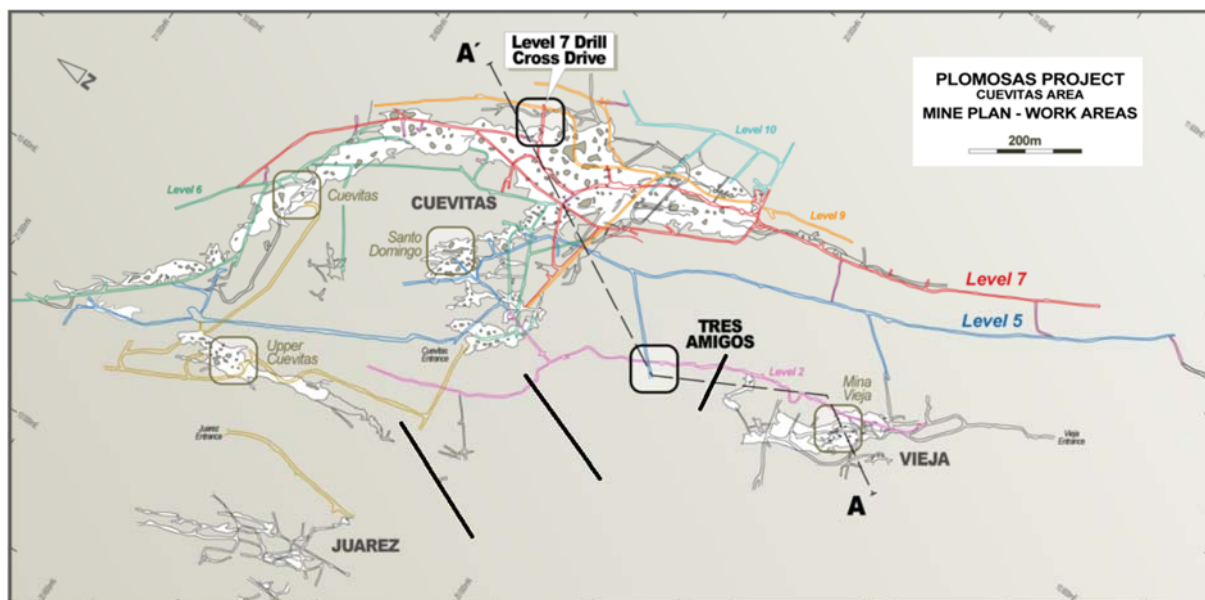

Figure 5: Approximate positions of proposed drill traverses to test for extensions to the Tres Amigos mineralisation
Further work on the Tres Amigos zone will concentrate on the area between Tres Amigos and the Juarez mineralisation to the north west and utilise reverse circulation (RC) rigs. These planned holes will be located as shown in Figure 5 by the two lines of drilling across the trend of mineralisation between the Tres Amigos and Juarez mining areas..